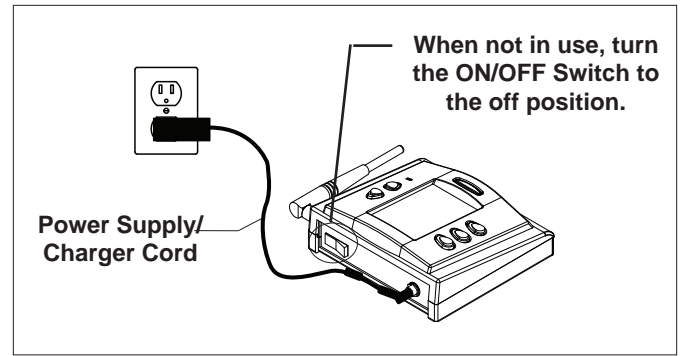

Figure 31. Wireless OneTouch Control Panel Installation
1. Connect the transformer to the back of the control panel (see Figure 31).